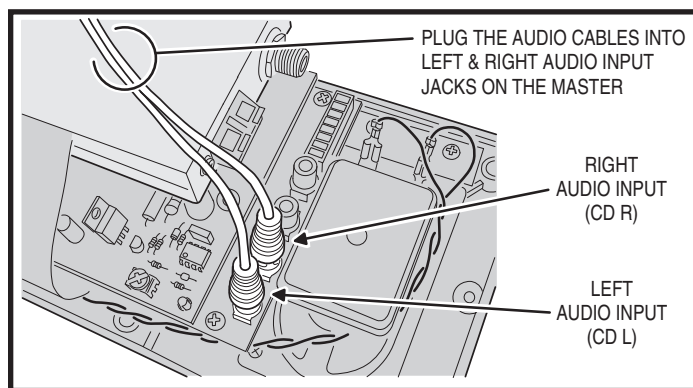

Figure 22. Audio Input Jacks on Master Station
2. Insert the player audio cable's BLACK RCA plug into the CD L jack on the DMC1 Master Station, then insert the cable's RED RCA plug into the CD R jack on the DMC1 Master Station (see Figure 22).